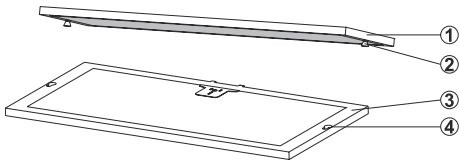

Fig. 6: Placing the active carbon filter
2. ➔ Active carbon filter is placed on the rear side of the metal oil filter Push it to the side to remove it.(Fig. 6).